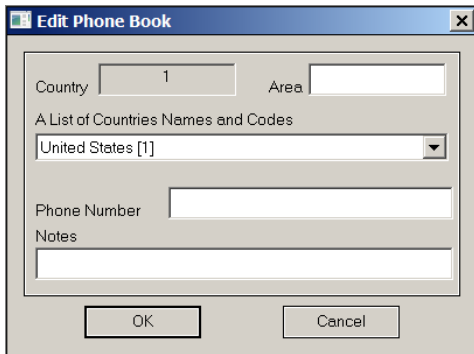

Figure 9-13 Edit Phone Book Dialog Screen
- b. Select **Add Number**, TapTalk will display the **Edit Phone Book** dialog screen (Figure 9-13).